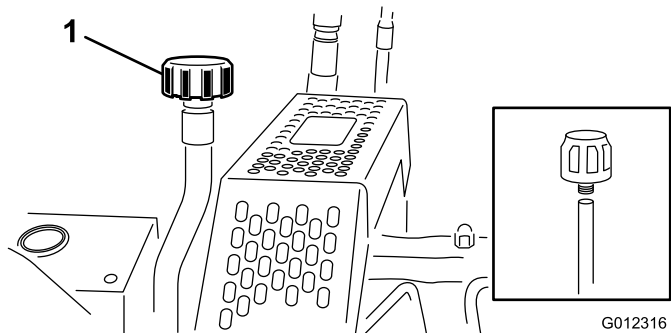

Figure 45
2. Clean around the breather and unscrew it with a wrench (Figure 45).